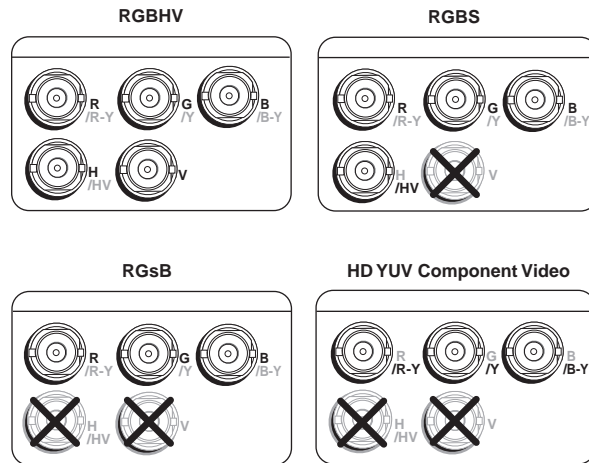

Figure 6. Connecting to BNC Output Connectors
- ⑤ **Reset button** — Pressing this recessed button causes various IP functions and Ethernet connection settings to be reset to the factory defaults (see **Resetting** on page 9 for more information).
- ⑥ **Reset LED** — This LED, located to the upper-right of the reset button, blinks a varying number of times to indicate which reset mode has been entered (see **Resetting** for details).
- ⑦ **BNC output connectors** — Plug an output device into these five BNC connectors, as shown in figure 6.